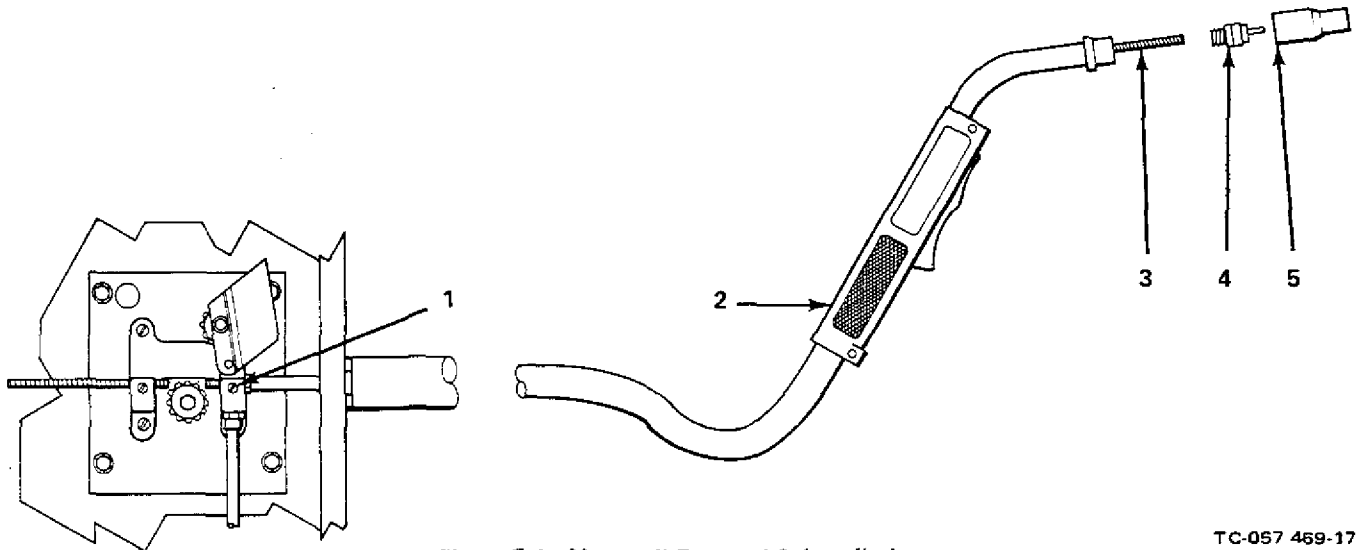

Figure 5-1. Monocoil Removal & Installation
A. Removal of Monocoil (Figure 5-1)
2. Loosen set screw (item 2, Figure 5-1) in the gun handle.
3. Pull off nozzle (5).
4. Remove gun connector (4) by rotating it counterclockwise.
5. By coiling the gun cable, expose the monocoil liner (3) out of the end of the gun.
6. Loosen securing screw (1) on drive assembly.
7. Grip the monocoil liner (3) with a pliers.
8. Straighten out the gun cable and apply a firm steady pull on the liner (3) while shaking the gun cable vigorously.
C. Inserting Monocoil Assembly (Figure 5-1)
2. Insert monocoil assembly (3) into the gun.